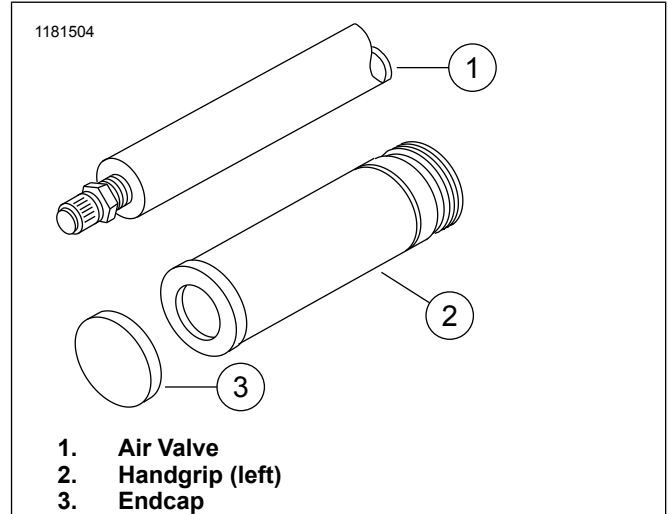

Figure 1. Aligning Left Grip with Air Valve Ends
6. See Figure 1. For models with handlebar mounted air valve (1) on left handlebar, move switch housing, if necessary. This will ensure proper fitting of grip end cap (3).